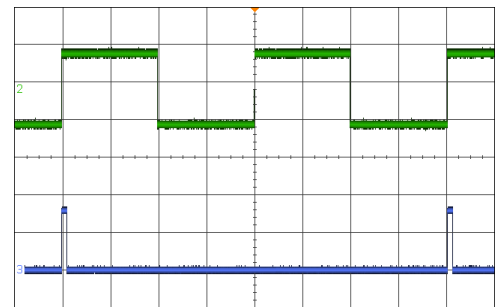

Figure 16
1. Tune a square wave or clock signal to the desired frequency and patch it into the **PI**'s input jack. In Figure 16 the input signal is a 5Hz square wave in green.
3. Adjust the CAL LOCK-OUT trim pot until the **PI** gate output is half the frequency of the input (2.5Hz). In Figure 16, the blue signal is the **Gate** output.